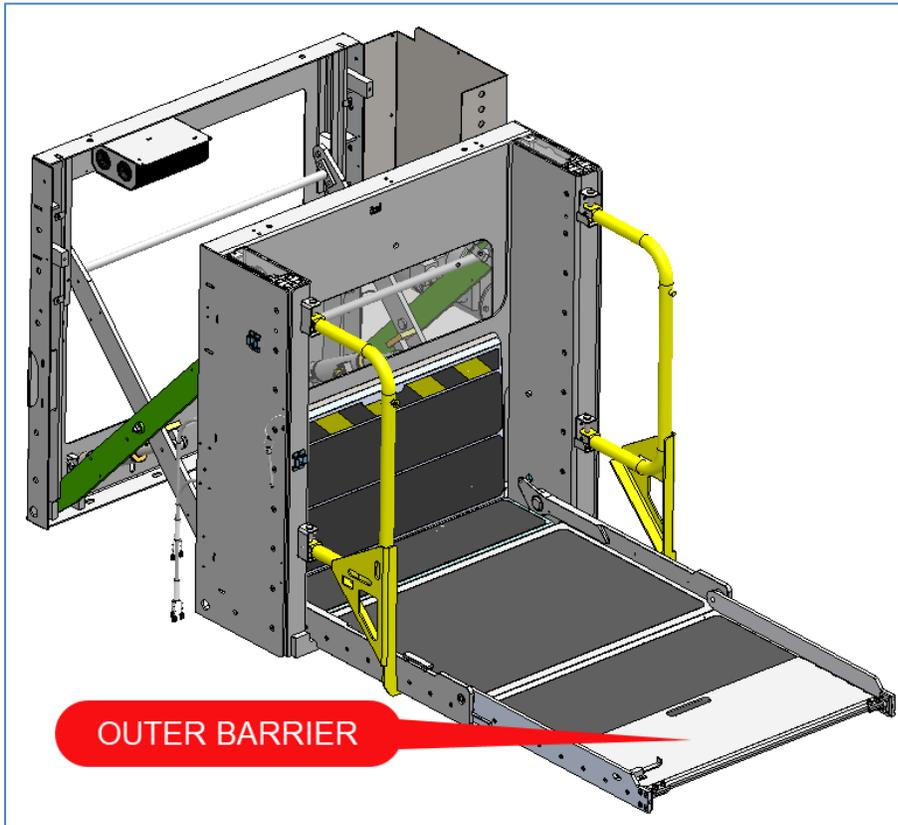

Figure 3
- 2) Use the control pendant to power up the lift then press the STOW button to deploy the lift. Manually deploy the platform and leave the outer barrier in the stowed position. See Figure 3.